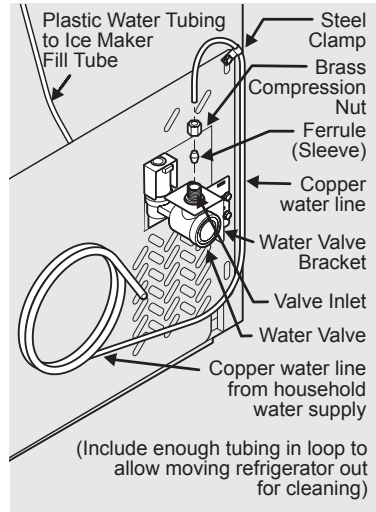

Figure 1
4. **If you use copper tubing** - Slide brass compression nut, then ferrule (sleeve) onto water supply line. Push water supply line into water valve inlet as far as it will go ($\frac{1}{4}$ " / 6.4 mm). Slide ferrule (sleeve) into valve inlet and finger tighten compression nut onto valve. Tighten another half turn with a wrench; DO NOT overtighten. See Figure 1.